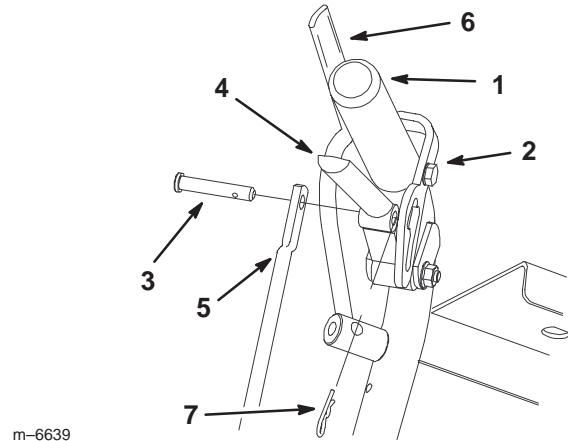

Figure 21
1. Remove the hairpin cotter pin and clevis pin from the drive lever and neutral lock (Fig. 21).
8. Install hairpin cotter between drive levers and neutral locks and into clevis pins (Fig. 21).